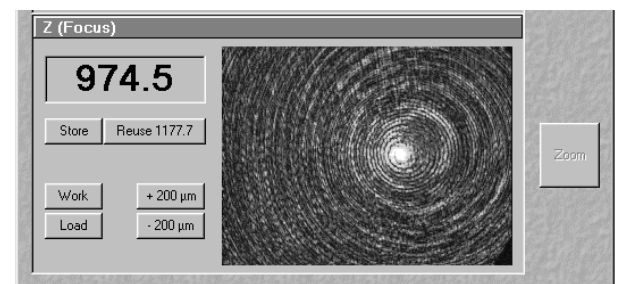

Fig. 4-30 Camera image near the lower cover slip surface
- If the focus position approaches the lower cover slip surface, the camera window looks similar to (Fig. 4-30).